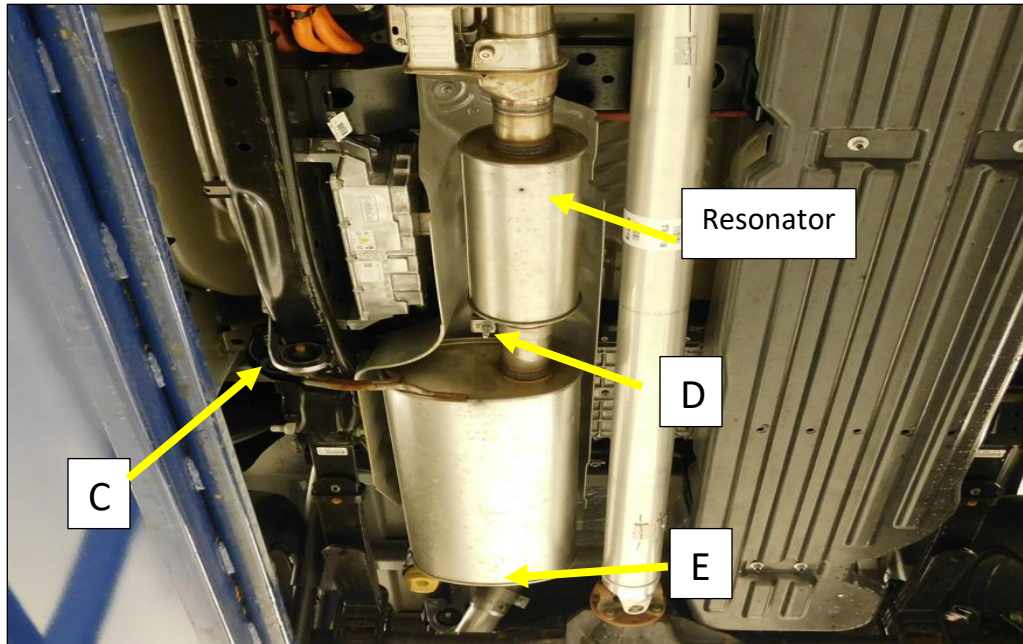

Figure 2
7. Loosen the 15mm nut on the band clamp between the resonator and the muffler (D). **Fig. 2/3**